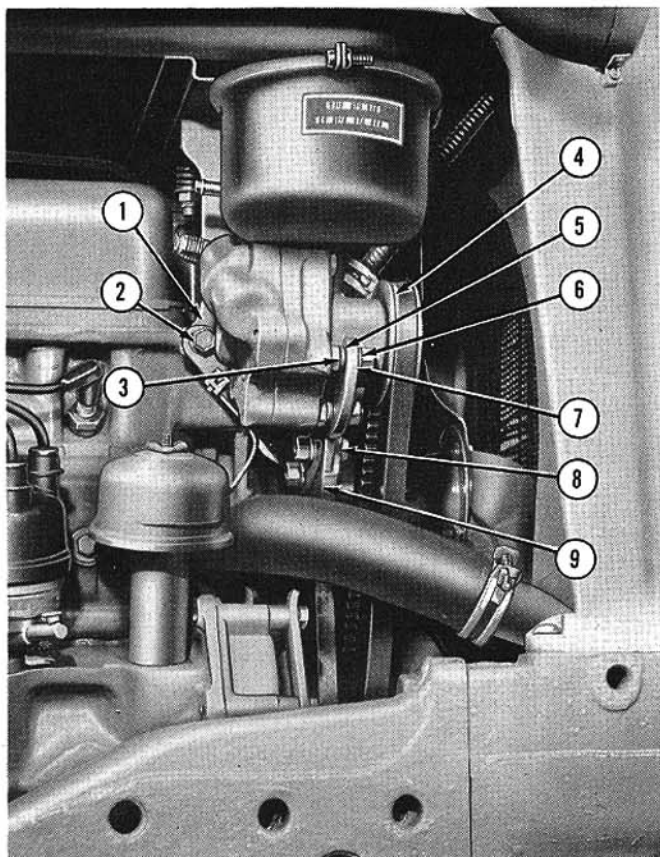

Figure 3
- b. Attach the upper pump support (5), Figure 3, to the pump assembly, using three $\frac{3}{8}$ -24 hex nuts (6), pump spacers (3), and $\frac{3}{8}$ " lockwashers (7).
- c. Remove the capscrew, located at (2), Figure 3, which secures the front fuel tank support to the cylinder head.
- d. Position the pump and reservoir assembly with attached upper support (5), Figure 3, to the lower support (9), as shown. Position the pump support bracket (1), to align the mounting holes with the cylinder head at (2), and lower the pump support (9).
- e. Attach the pump support bracket (1), Figure 3, to the lower pump support (9), with two $\frac{3}{8}$ -24 x $1\frac{1}{8}$ " hex head bolts (8), two lockwashers and two $\frac{3}{8}$ -24 hex nuts provided. Do not tighten at this time. Secure the pump bracket to the cylinder head at (2), with one $\frac{3}{8}$ -16 x 1" hex head bolt and lockwasher.
- f. Adjust the pump assembly to its lowest position on the lower support and install the pump drive belt (4), Figure 3. Raise the pump assembly to tighten the belt to a tension of $\frac{1}{4}$ " deflection (under 5-7 lbs. thumb force) at belt center. When correct belt tension is obtained, tighten the pump bracket to lower pump support bolts securely.
- i. Install the head light wire clip and wire on the pump bracket as shown in Figure 3.